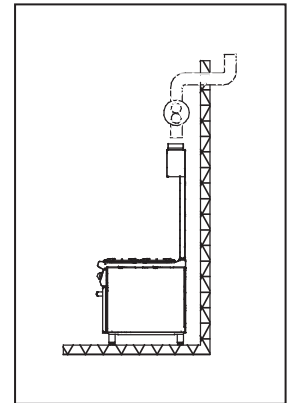

Fig. 16
- *Direct forced evacuation (fig.16).*